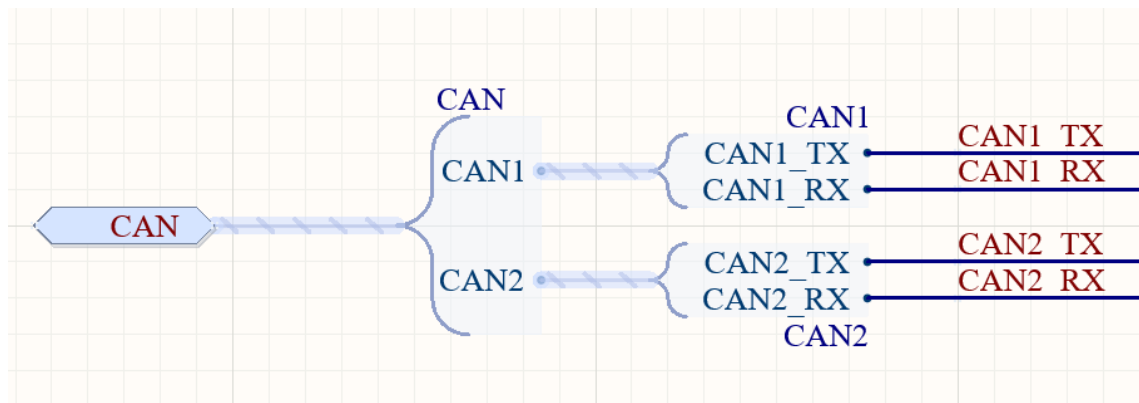

Figure 19. Page 7\_can\_rc\_i2c\_analog.SchDoc with nested CAN harness
43. From the **Place** menu, or from the *ActiveBar*, place a **Signal Harness** to connect the new CAN1 Harness Entry to the CAN1 Signal Harness as show in Figure 19. Feel free to change the size of the Harness Connector CAN if needed.
44. Repeat the process above to connect the CAN2 Harness Entry to the CAN2 Signal Harness. Your end result should look similar to Figure 19.